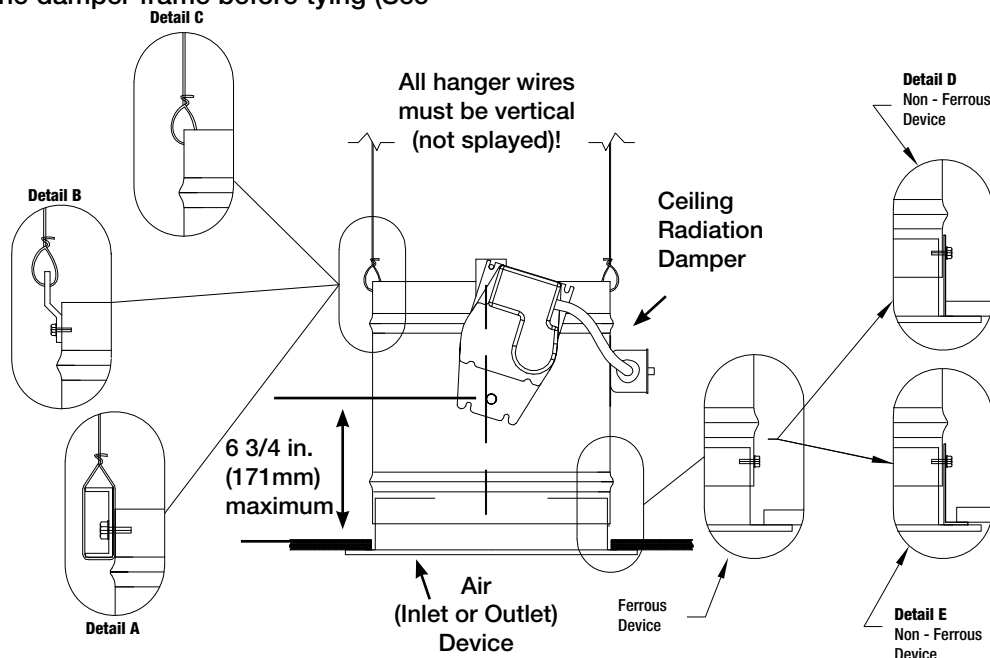

Figure 7
1. Ceiling radiation damper may be connected directly to the air device neck and supported by steel channel (See Detail A, Figure 7).
2. Ceiling radiation damper may be connected directly to the air device neck and supported by hanger straps (See Detail B, Figure 7).
Detail C, Figure 7).
1. A steel extension should extend from the ceiling radiation damper to the bottom surface of the ceiling membrane and the opening in the ceiling membrane (see page 2, paragraph 3) should be equal to the outside of the steel extension (see Detail D, Figure 7).
2. A steel angle should be attached to the bottom of the ceiling radiation damper and span the gap from the ceiling radiation damper to the bottom of the ceiling membrane. The steel angle should overlap the ceiling membrane (see Detail E, Figure 7).
Models CRD-501 may be installed as shown in **Figure 7**.